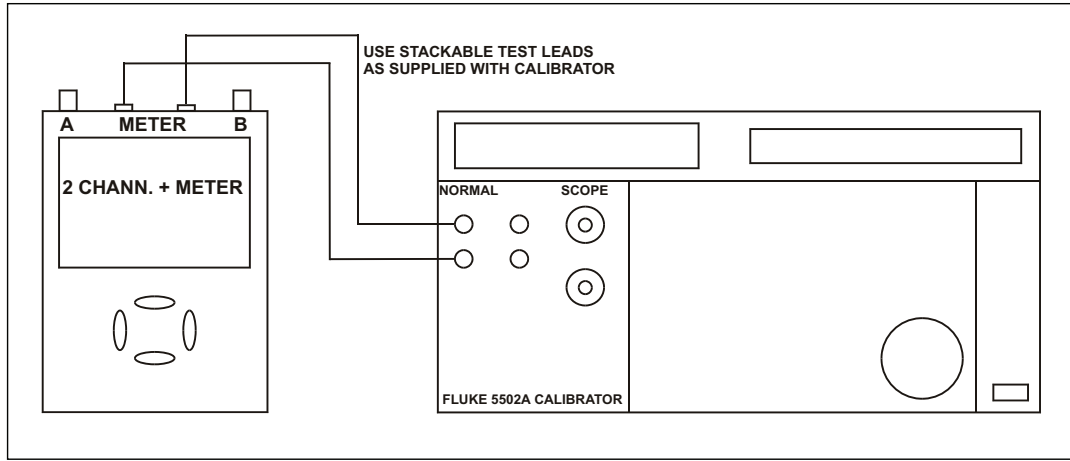

Figure 5-9. 5502A NORMAL Output to Test Tool Banana Input
2. Connect the Test Tool to the 5502A as shown in Figure 5-9.